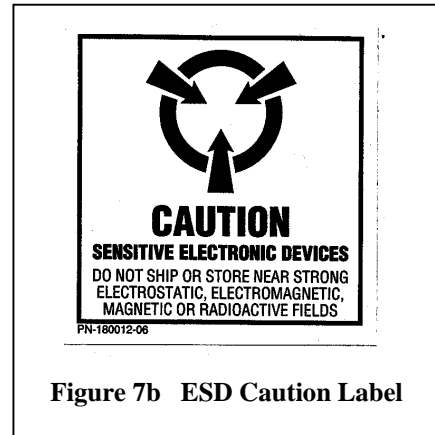

Figure 7b ESD Caution Label
- ESD Warning Label: Caution for electrostatic sensitivity (Fig. 7b)